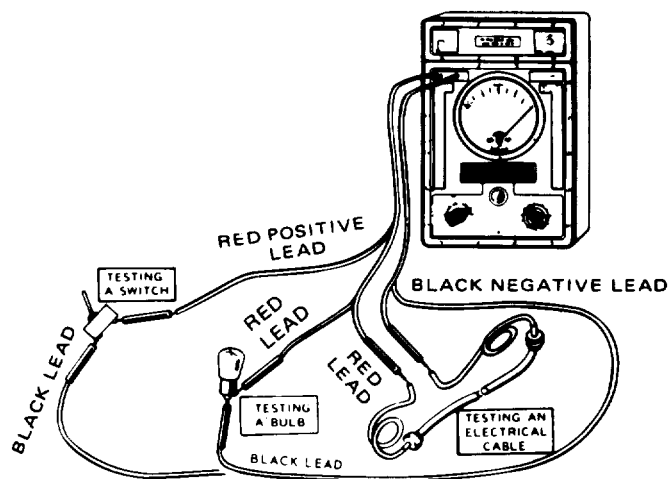

Figure 5-5. Making a Continuity Check
c. *Continuity Tests.* Continuity tests are made to check for breaks in a circuit (such as the switch, light bulb, or electrical cable illustrated). To make a continuity check (Fig. 5-5), do the following steps: